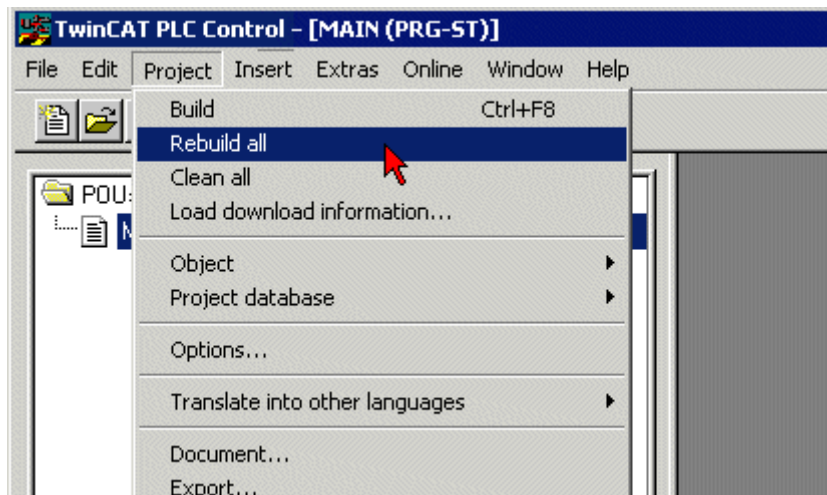

Fig. 5: Compile project
- In TwinCAT PLC Control, under the 'Project' menu, select 'Compile all' to compile the project (Fig. 5)